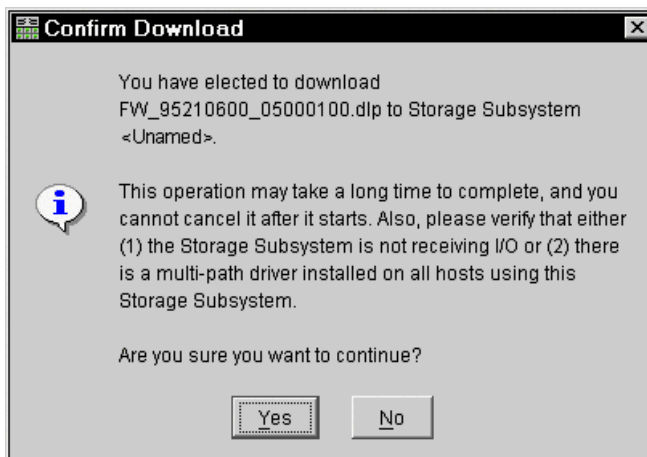

Figure 4-16 Confirming the download of the new firmware
- c. A new window (Figure 4-16) appears where you have to confirm that all the requirements are met. Click **Yes** to confirm the download.